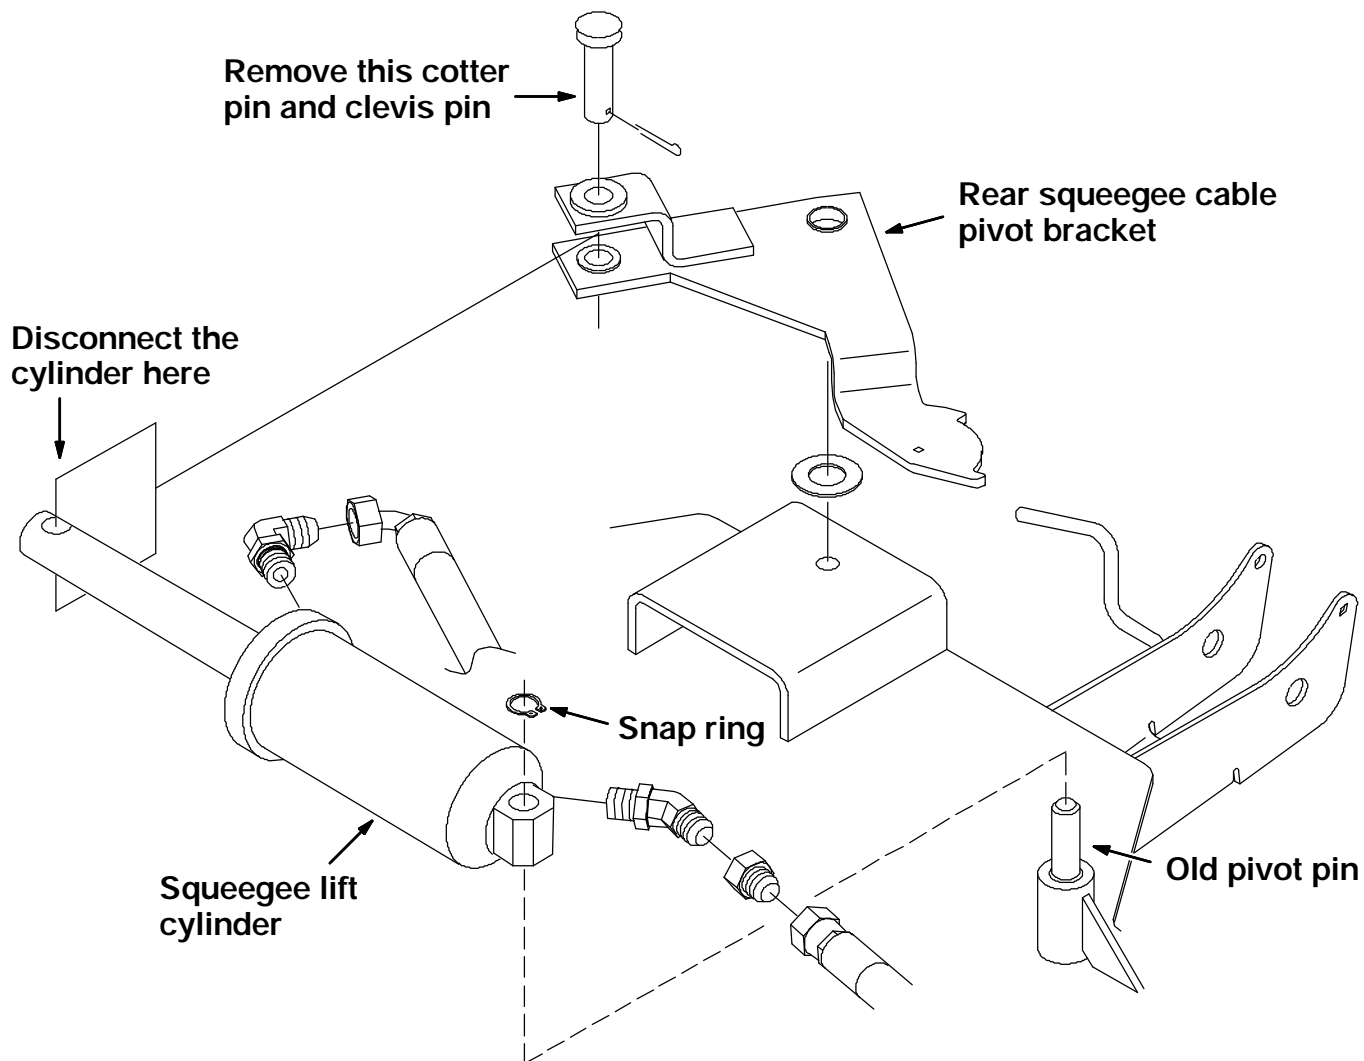

FIG. 3 - Squeegee Cable Pivot Bracket
5. Remove the snap ring from the old lift cylinder pivot pin. (Refer to FIG. 3)
6. Remove the cotter pin and clevis pin from the other end of the lift cylinder where it attaches to the cable pivot bracket. (Refer to FIG. 3)
7. Reinstall the clevis pin and cotter pin back in the rod end of the lift cylinder and cable pivot bracket. (Refer to FIG. 3)